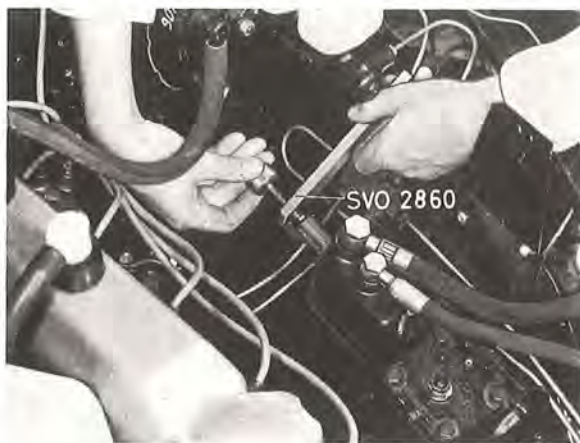

Fig. 6-65. Removing the sealing ring
2. Mark up the location of the flange (3) on the control spindle. Slacken the clamping bolt (4) and pull off the flange.
4. Carefully apply tool SVO 2860 to the sealing ring. Tighten the screw (Fig. 6-65). This also tightens the sealing ring. If the ring sticks in the circlip groove, carefully turn the tool backwards and forwards.